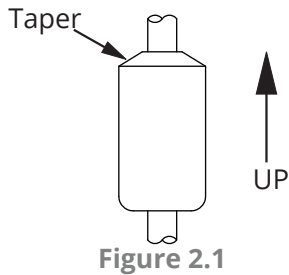

Figure 2.1
- The float(s) is/are oriented properly on the stem (See Figure 2.1). MPX-F floats are installed by customer.